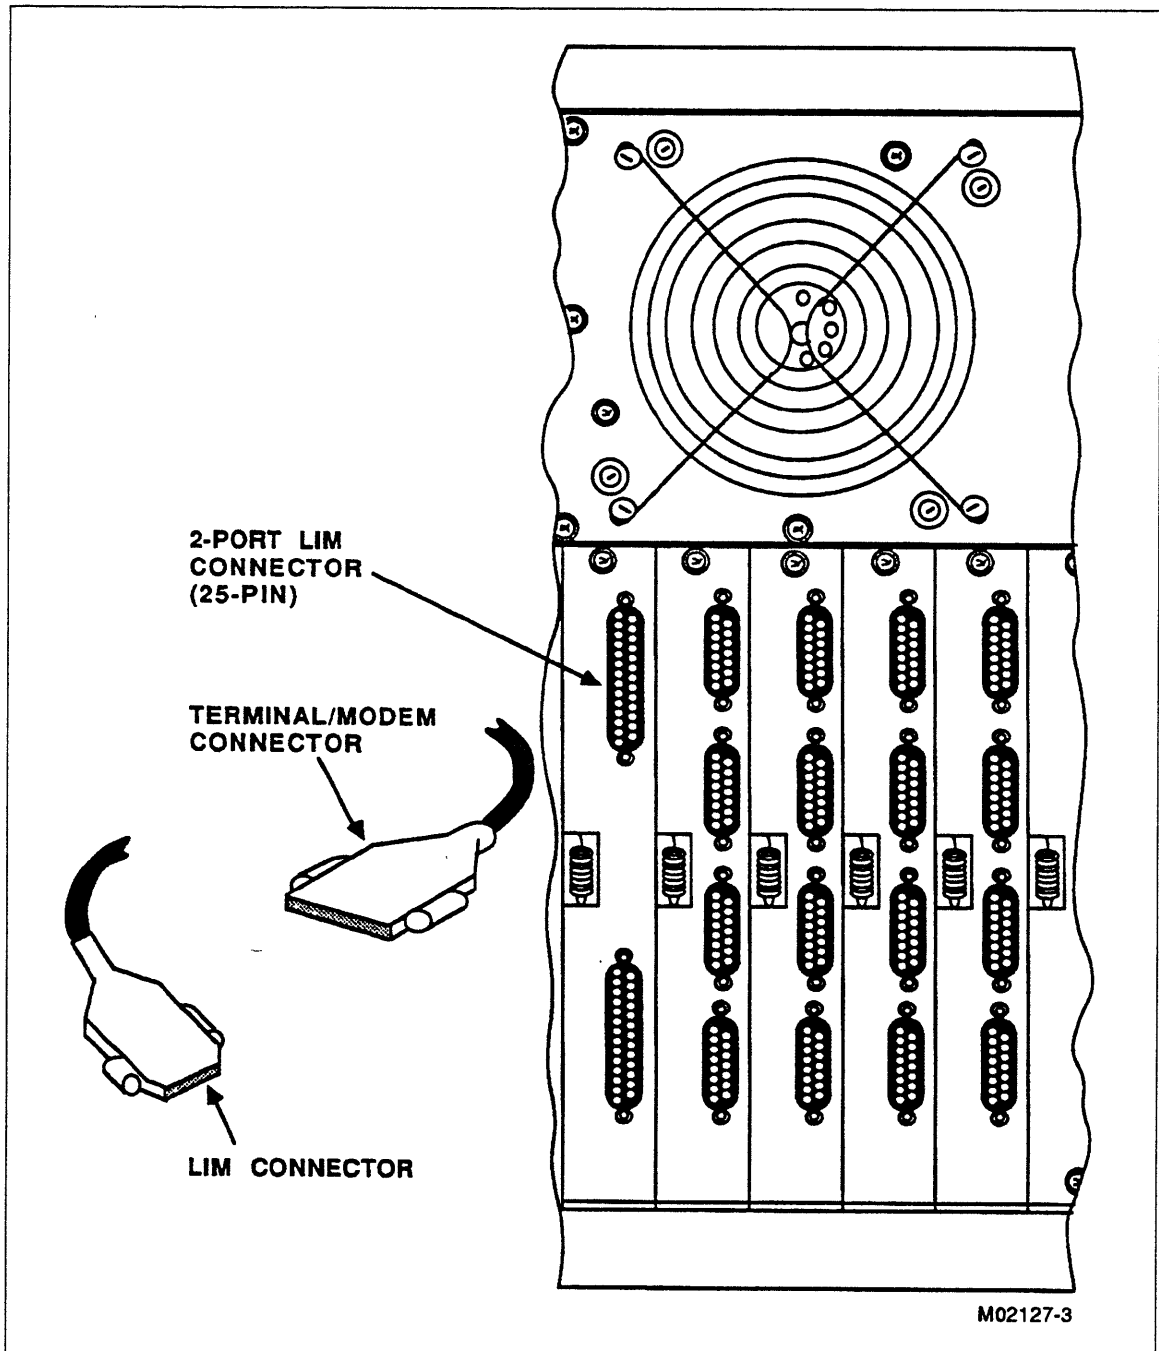

Figure 3-62. Connecting Cables to V.35 LIMs
1. Connect the cable(s) to the 2-port LIM connectors shown in figure 3-62. Tighten the locking screws with a straight slot screwdriver.